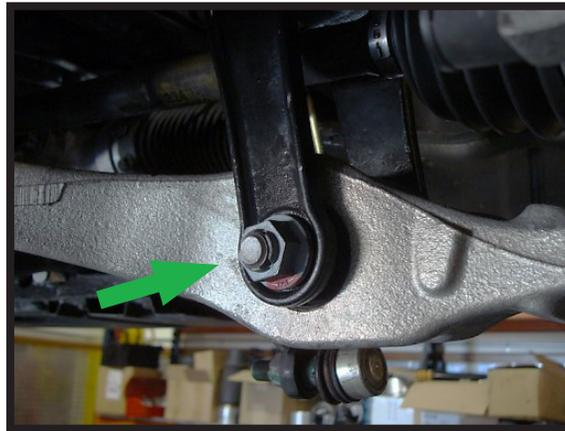

FIGURE 6
9. REMOVE THE LOWER SHOCK MOUNT NUT, FOLLOWED BY THE BOLT AND REMOVE THE STRUT FROM THE VEHICLE. (FIGURE 6)